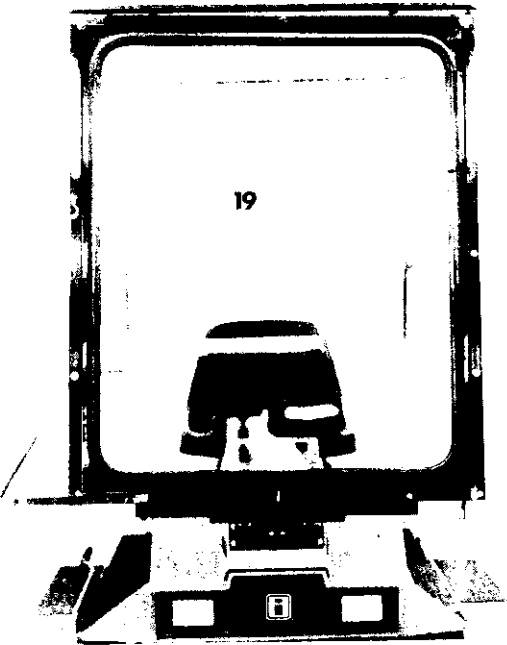

FIGURE 8
STEP 8; SEE FIGURE 8:
- B. Set the WINDSHIELD (19) into the windshield support. Line up the welded tabs on the top frame with the tabs on the windshield. Insert two bolts upwards and add nuts.